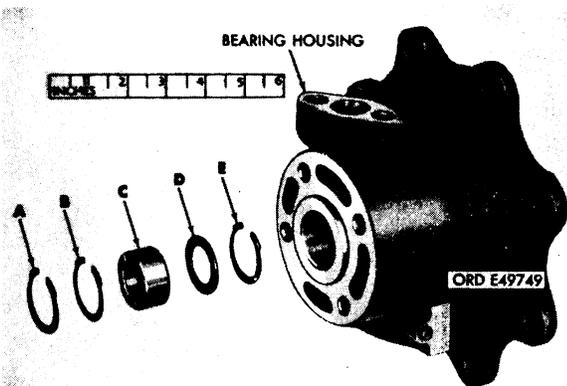

FIGURE 34. REMOVING OR INSTALLING RETAINING RINGS, SLEEVE BEARING, AND THRUST WASHER - TURBOCHARGER 10935279.
c. Turbocharger 10935279. Refer to figure 34.
- (1) Remove retaining rings (A and B) using retaining ring pliers - 10935598